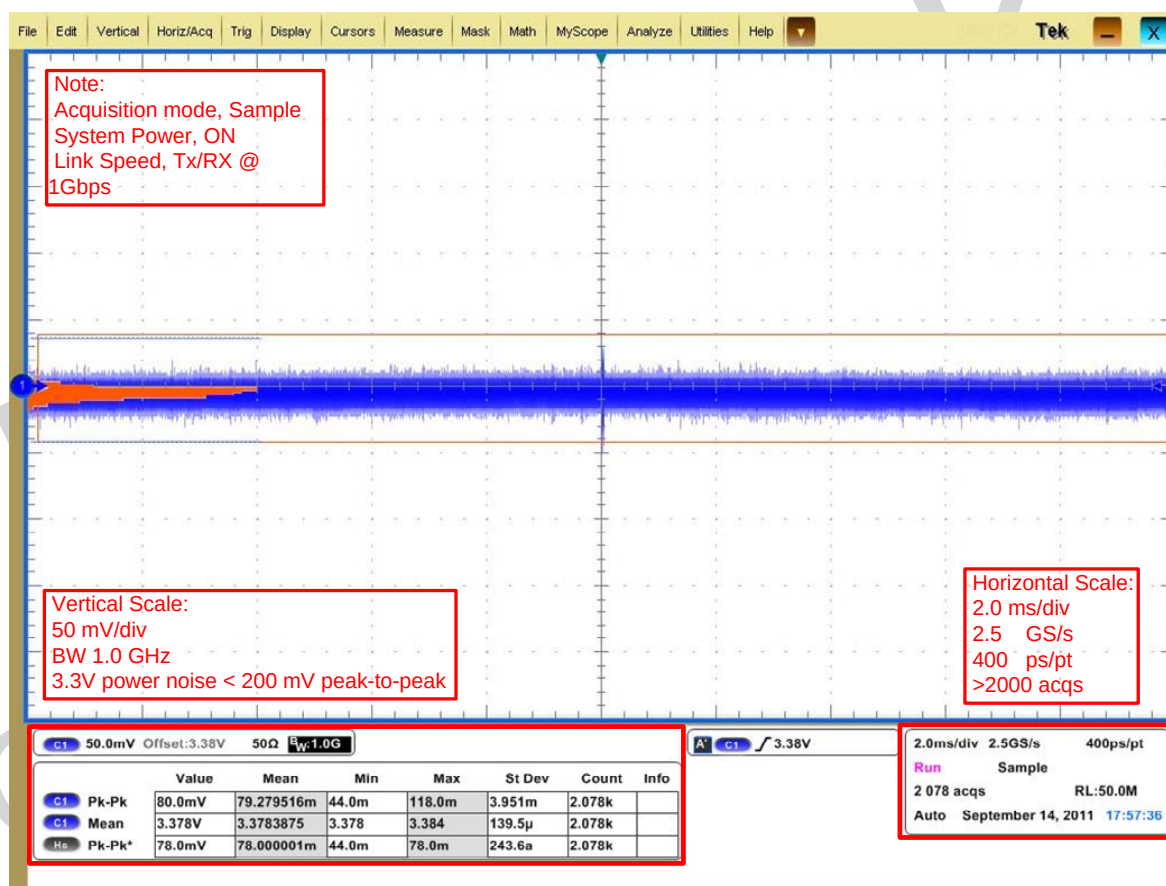

Figure 4. Measurement Criteria of 3.3V Power Noise
- 3.3V Power Noise < 200mV peak-to-peak (Figure 4)